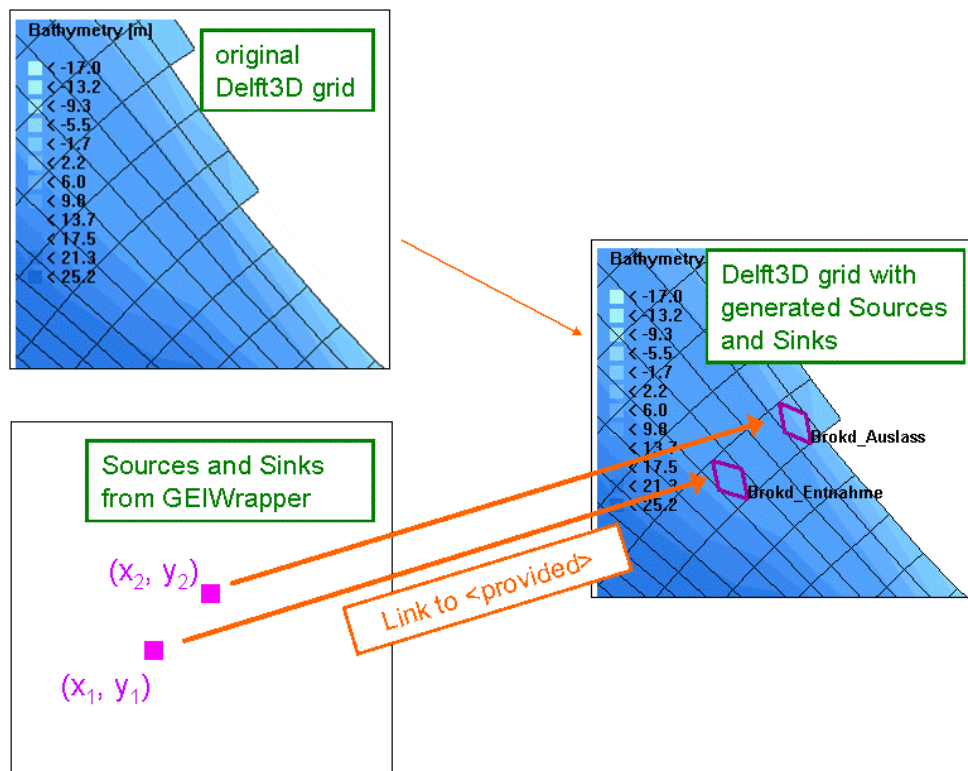

Fig. 22: A link to an ElementSet <provided> generates new sources and sinks
- <provided> in cases of sources and sinks means that new discharge locations are generated (Fig. 22). The ElementSet <provided> for the Quantity flux/discharge is offered in OmiEd for each Delft3D simulation. Enabling discharges in the Delft3D-GUI is not necessary. Then the user has to establish a link from XYPoint to <provided>. This will generate new sources and sinks in the Delft3D grid. The x- and y-coordinates of XYPoint define which grid cell becomes a new discharge.